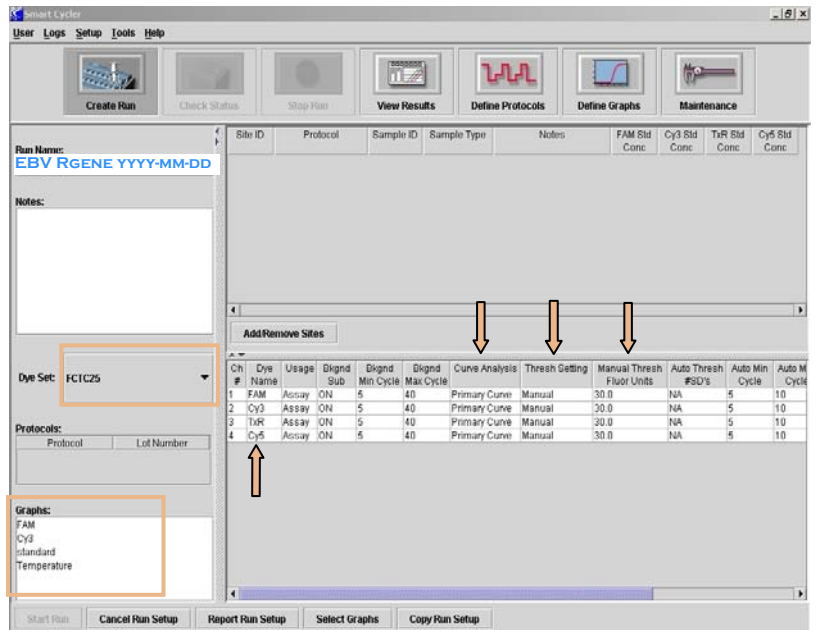

Fig.4
- In the **RUN NAME** field, type the name of the experiment (ex: **EBV RGENE YYYY-MM-DD**) (fig.4).